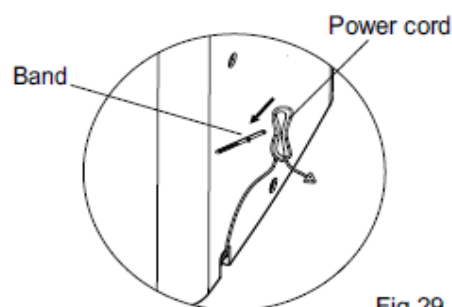

Fig.29
- Wrapped the power cord and bundle it with the tape (Fig.29).